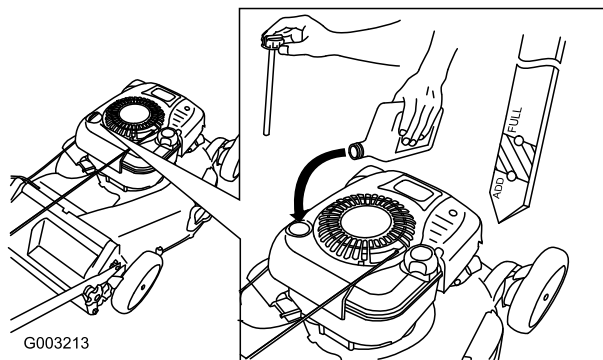

Figure 7
1. Remove the dipstick (Figure 7).
2. **Slowly** pour oil into the oil fill tube until the oil level reaches the Full line on the dipstick (Figure 7). **Do not overfill.** (Max. fill: 26 oz. (0.77 l), type: SAE 30W detergent oil with an API service classification of SF, SG, SH, SJ, SL, or higher.)